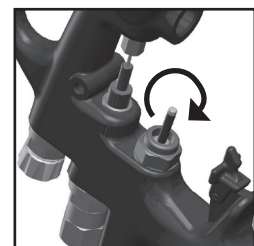

Fig. 24
10. Tighten air valve assembly using fingers first, and then tighten with 14mm wrench. Torque from 24-30 N-m [18-22 ft-lbs]. (See fig 24)